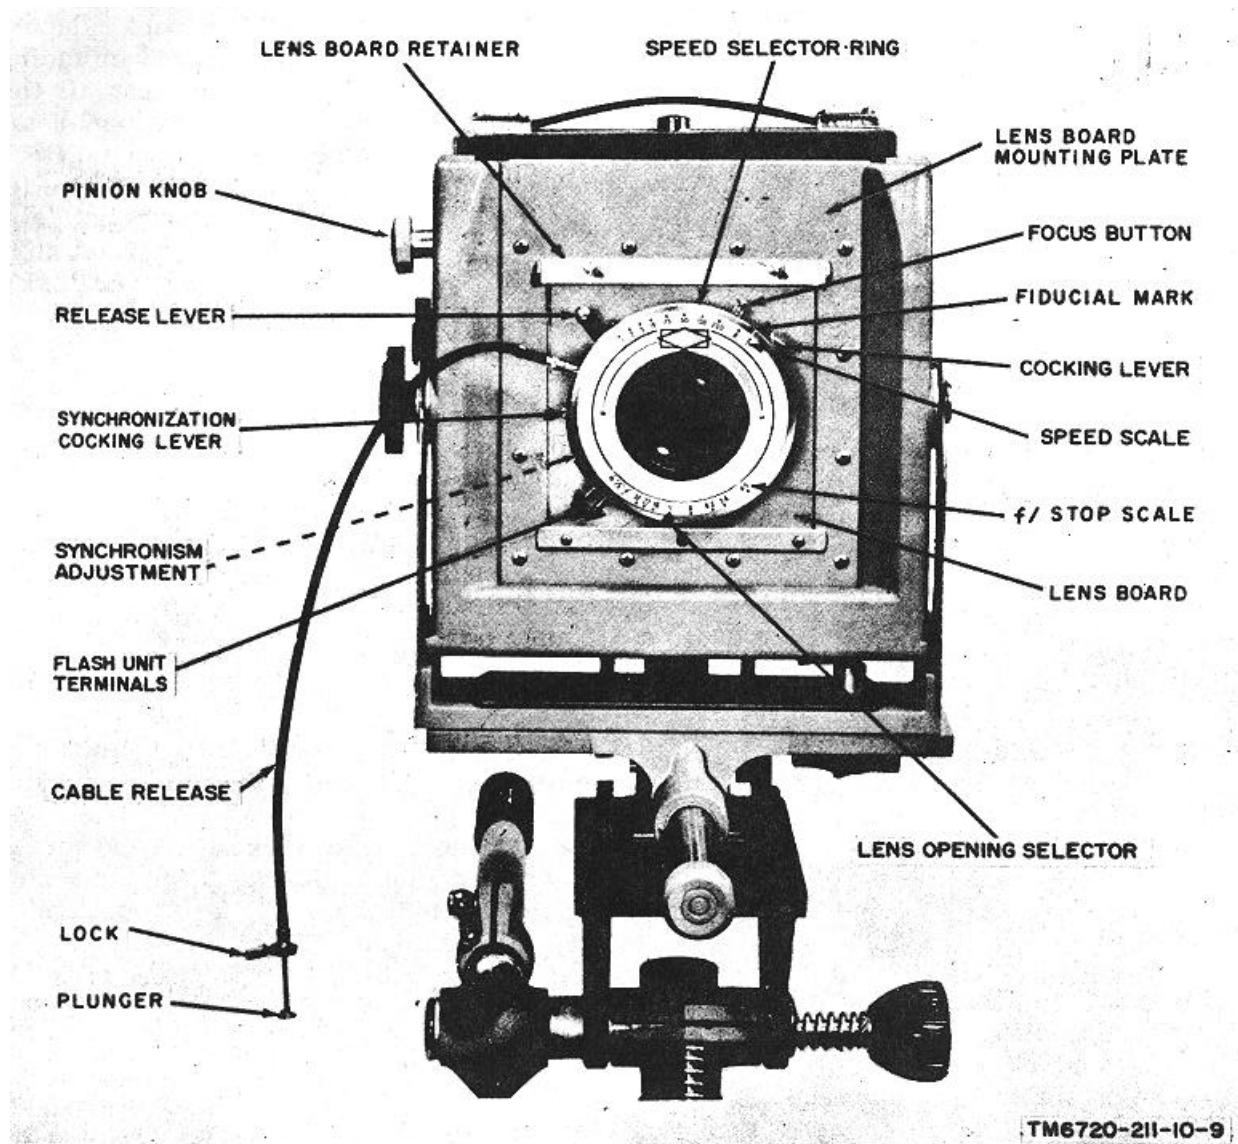

Figure 8. Controls on lens and shutter assembly.
| Pinion knob (fig. 8). | Raises and lowers lens board mounting plate. |
(fig. 8)
- (1) Slide the lens board retainer (fig.8) to the left and upward as far as possible.
- (2) Place the lens board in position on the lens board mounting plate with the lower edge behind the fixed lower lens board retainer.
- (3) Seat the lens board completely in the recess on the front of the lens board mounting plate.
- (4) Slide the lens board retainer down and to the right as far as possible to secure the lens board in place.
b. Depress the cocking lever (fig. 8) until it latches in the cocked position.
a. To eliminate undesirable foreground or background from the photograph, raise or lower the lens board mounting plate (fig. 8) by pushing in and rotating the spring-loaded pinion knob until the desired degree of elimination is achieved.